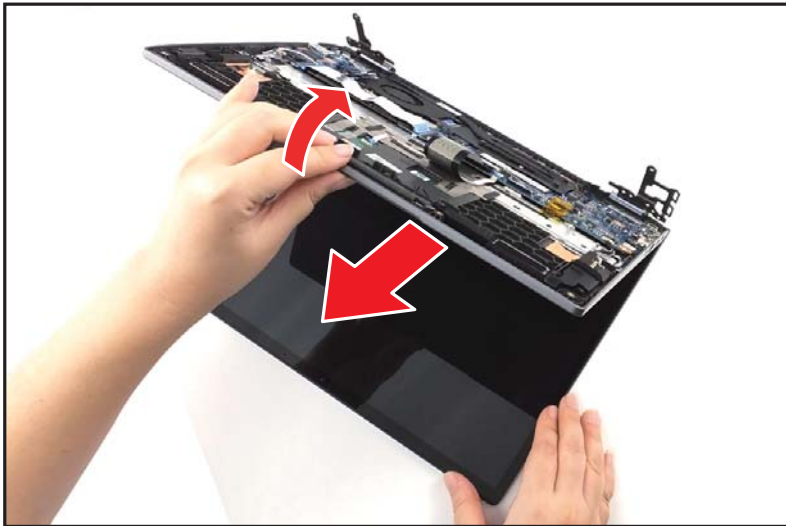

Figure 1-22. LCD Module Removal
7. Open the top assembly again. Then remove the LCD module away from the top assembly (Figure 1-22).